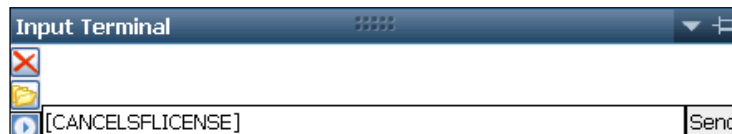

Figure 38: Input Terminal – Cancel StarFire License
80. Input the [CANCELSFLICENSE] command on the *Input Terminal* window to cancel the current StarFire license (see Figure 38).